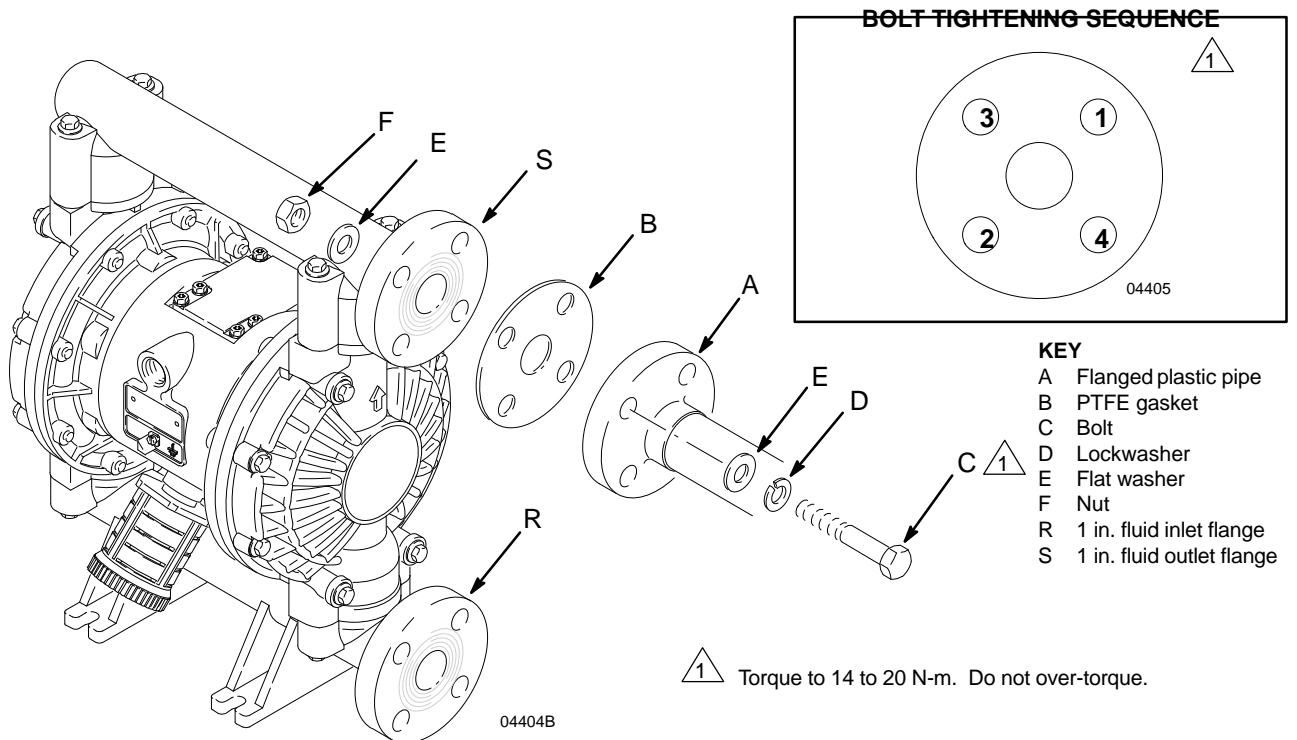

Fig. 3
1. Place a lockwasher and a flat washer on each bolt. Refer to Fig. 3.
4. Hold the nuts with a wrench. Refer to the tightening sequence in Fig. 3 and torque the bolts to 14–20 N•m. **Do not over-torque.**